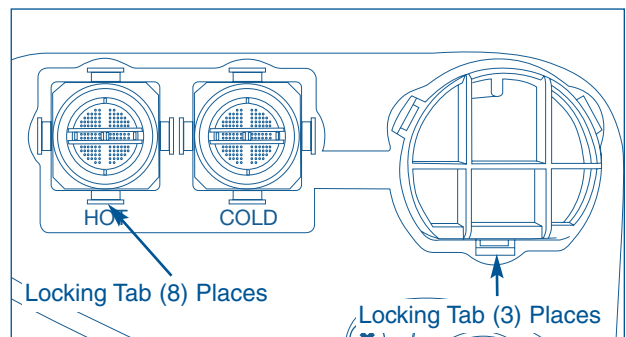

Figure 4-30.
1. Disconnect the washer from the hot and cold water hoses. (See Figure 4-30)